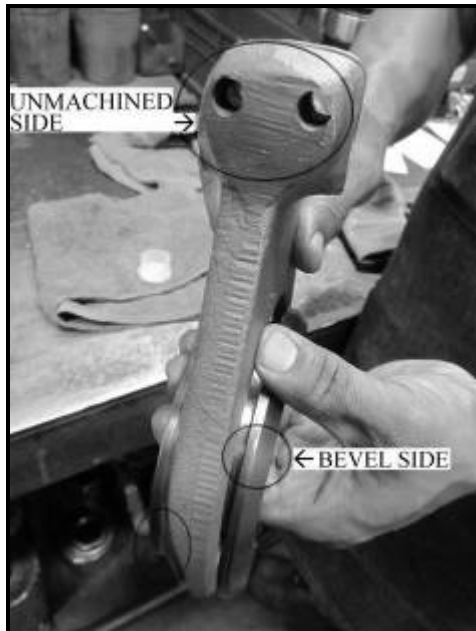

Figure 83
- Slide the shift fork onto the clutch collar and place the two parts, as a unit, into the declutch housing. See **Figure 83**